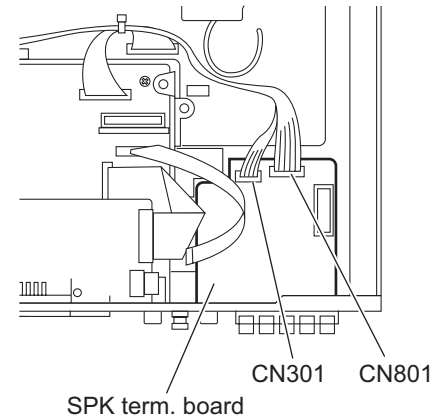

Fig.9
- (2) From the top side of the main body, disconnect the wires from the connectors (CN301, CN801) on the SPK term. board. (See Fig.9)
- (3) Take out the SPK term. board.